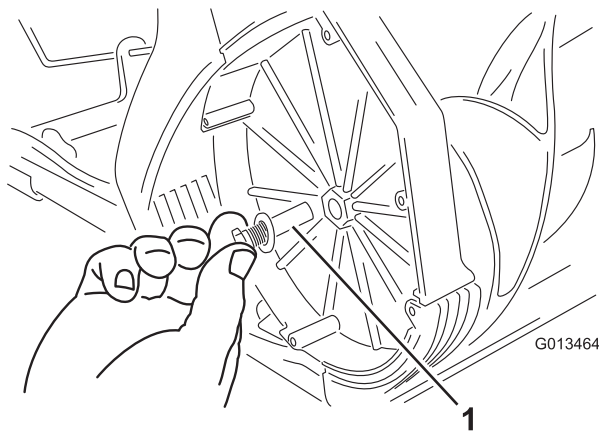

Figure 11
2. Remove the rotor pin (Figure 11).